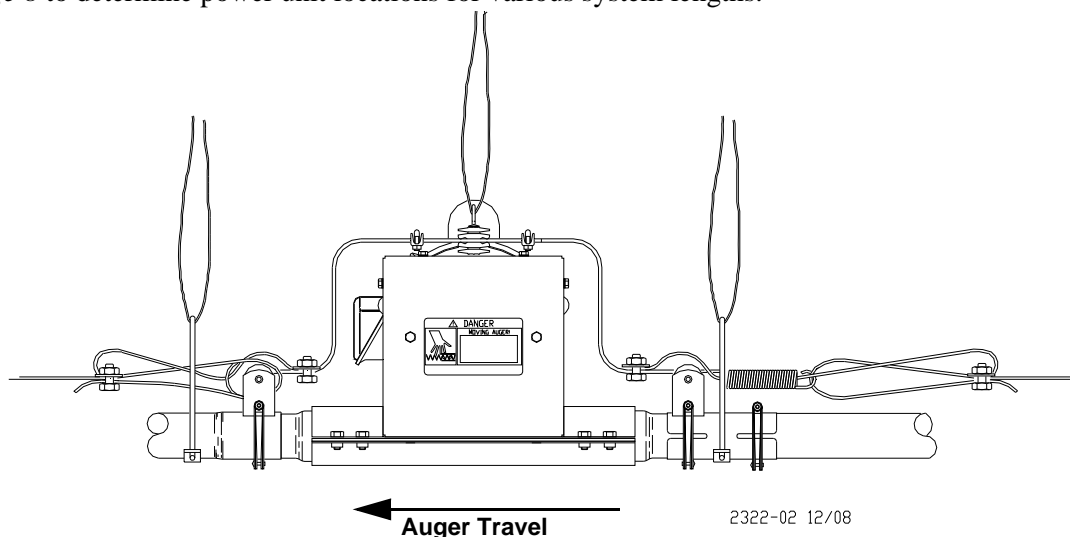

Figure 48. Drive unit installation
5. Remove the power unit from the base connector weldment and install the base connector weldment as shown, see **Figure 48**.
6. Loosen the four (4) bolts on the incoming side of the power unit base.
Slide the belled end of the tube adapter into the incoming side of the power unit base. Tighten the four (4) bolts to secure the tube adapter to the power unit base, see **Figure 48**.
8. Insert the belled end of the next tube section over the tube adapter, as shown in **Figure 48**. Secure using a clamp/anti-roost bracket.